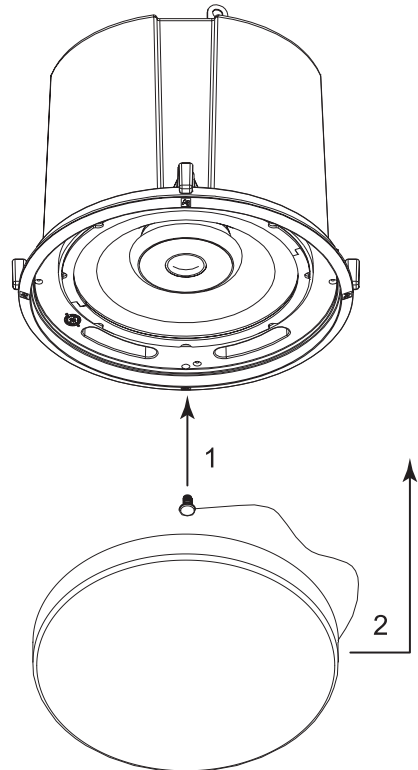

Figure 15: Attach the Grille
Step 8: Attach the Grille (Figure 15)
First, install the grille's safety tether by pushing the grille fastener into the hole in the front of the baffle (see Figure 15). Second, press the grille into place until the front of the grille is flush with the rim of the baffle. Make sure the grille is securely seated to prevent it from vibrating loose. If you need to remove the grille, the easiest way is to insert two bent paper clips or other pointed objects into holes in the grille, then apply slow even pressure to pull down on the grille until that section of the grille comes out slightly. Continue the same procedure around the perimeter of the grille, loosening a portion at a time until the grille is removed.